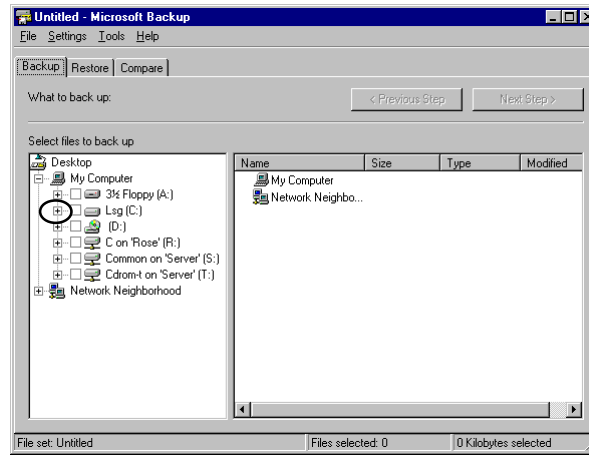

Figure 1
- 5) Click on the "+" (plus symbol) in the left window next to the C: drive as shown in **Figure 1**. If your data is in another drive, click on the "+" symbol next to it instead. This causes the backup program to list all of the folders in that drive in the left window as shown in **Figure 2**.